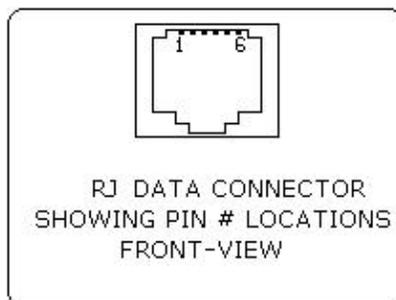

FIGURE 12: RJ DATA CONNECTOR
- Six connections are provided from the Serial Interface to the host computer. Table 3 below lists the Serial Interface signals and pin outs on the RJ connector and the connector pin locations are shown in Figure 12.